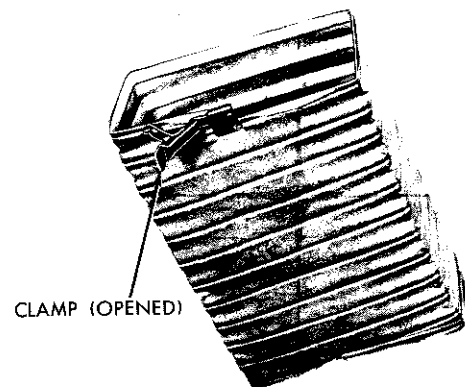

Fig. 48—Outlet Tube and Clamp
(1) Discharge the refrigerant from the system.
(2) Remove the rear seat, back rest and insulation blanket to assist in removal of the trunk unit components.
(3) Release the four clamps on the flexible ducts (Fig. 48) and remove the ducts from the evaporator.
(4) Disconnect electrical connections and drains.
(5) Disconnect the suction and discharge lines. Cap all refrigerant lines to prevent dirt and moisture from entering the system.
(6) Remove the mounting bracket to flange bolts (six) and remove the evaporator assembly from the luggage compartment.